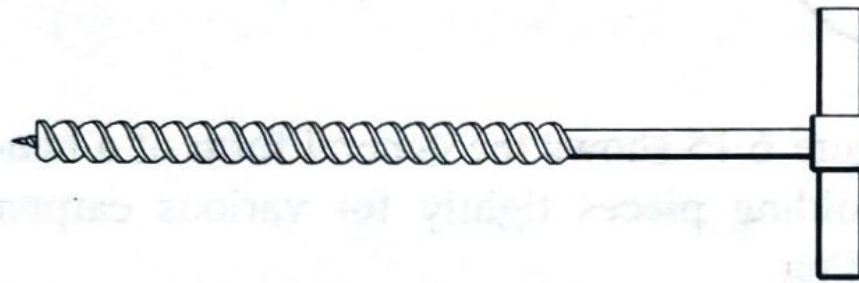

FIGURE 6.16
6. *Auger:* For making large size deep holes of diameter from 8 mm to 25 mm, augers of suitable size and length are used in carpentry shops. It consists of a steel bar carrying a fluted body in the lower half and a rod on the upper half Figure 6.16. The bottom end of the fluted body is provided with a screw point, which acts as a pivot. Near the pilot screw, there are two cutting edges formed by the end of the twisted body. On the top end there is the wooden handle. To make a hole, the auger screw point is pressed to the wood and rotated with two hands slowly to drive it in like a screw and form the hole.